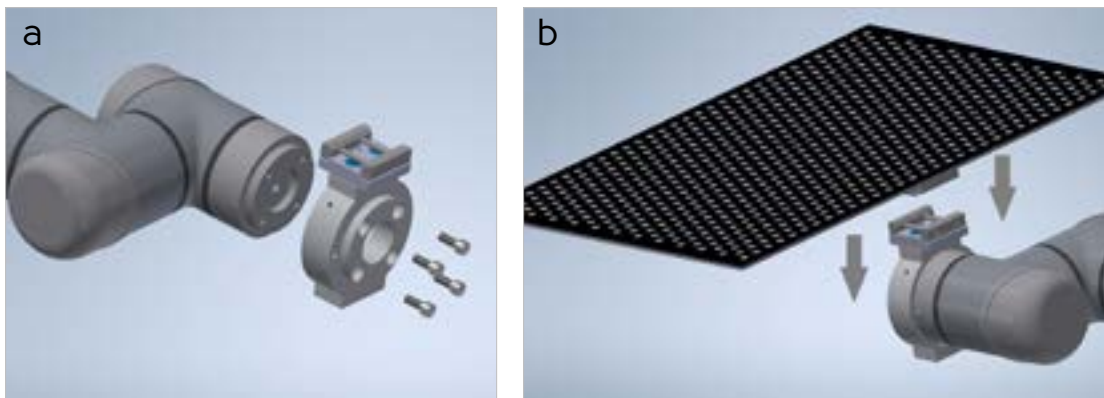

Fig. 40: Attaching the Calibration Plate to the Robot.
- b. Attach the calibration plate to the adapter plate of the adapter ring using a mounting bracket (Fig. 40).